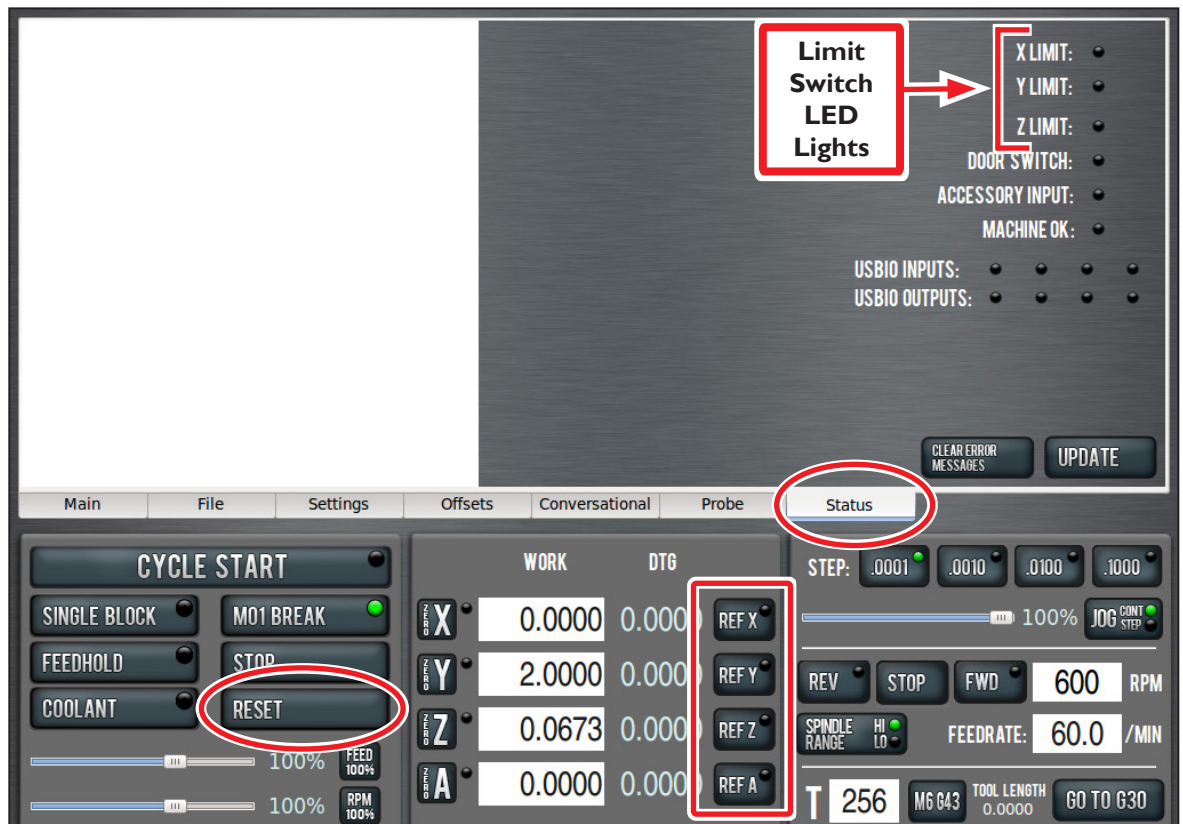

Figure 3.19
1. On the PathPilot interface, click the *Status* tab (see **Figure 3.19**).
3. Verify that the corresponding limit switch LED light illuminates on the *Status* screen (see **Figure 3.19**).
4. After verifying limit switch function, click the flashing *Reset* button (see **Figure 3.19**).
1. Reference the mill by clicking the *Ref Z*, *Ref X*, and *Ref Y* buttons (see **Figure 3.19**); the mill moves.